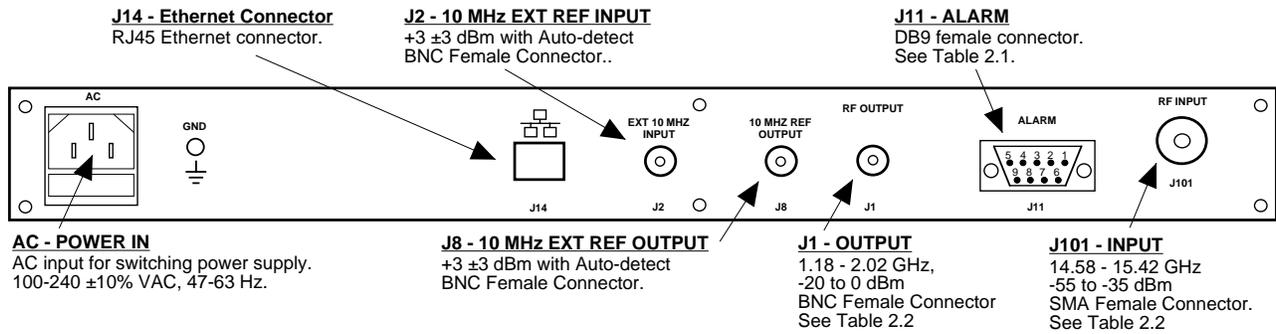

FIGURE 2.1 3116-145-1600 Rear Panel I/O's
Figure 2.1 shows the input and output connectors on the rear panel.
1. Connect a -55 dBm to -35 dBm signal to RF IN, J101 (Figure 2.1).